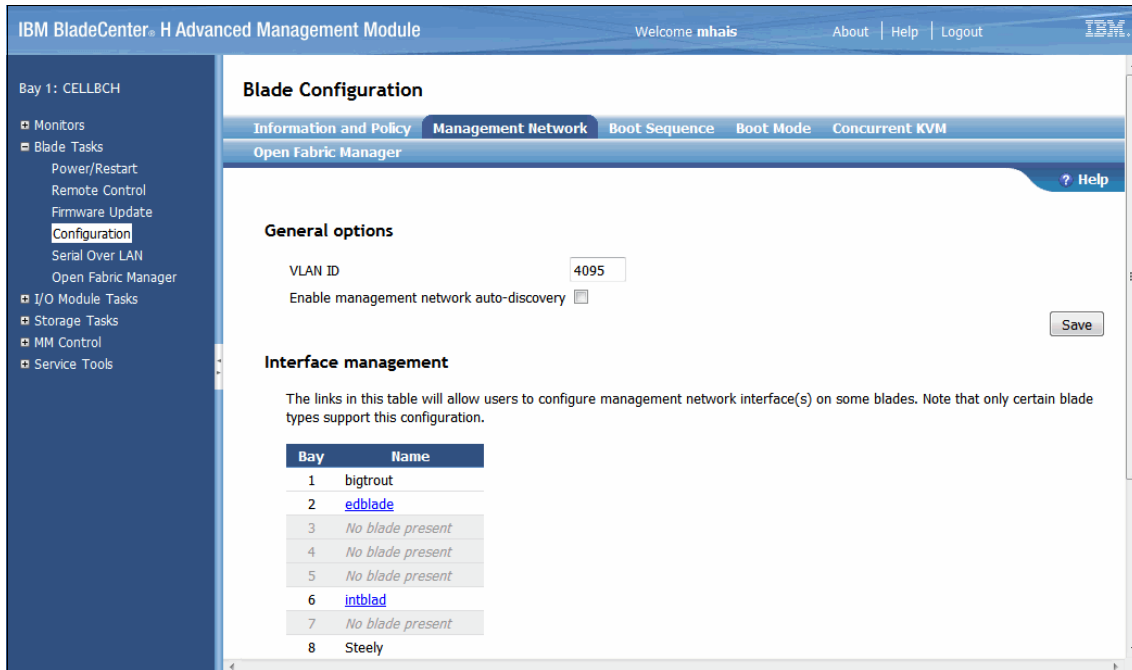

Figure B-2 Blade configuration management network
- By default, the FSP is not accessible in the network. AMM must be used to enable the FSP in the network. From the BladeCenter management web graphical user interface (GUI), go to the **Blade Tasks** → **Configuration** → **Management Network** tab, as shown in Figure B-2.
- Click the required Power Systems blade **name** in the **Interface management** list. In our example, *edblade* in Bay# 2, as shown in Figure B-2.